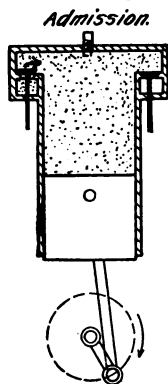

FIG. 3.
Figs. 3 to 6, inclusive, illustrate the four strokes forming a complete cycle in a four cycle engine. The piston is shown near the finish of the stroke in each case.
**Admission.** In Fig. 3 the piston has traveled one down stroke. During this stroke the admission valve is open and the vacuum formed by the down stroke of the piston has been filled by the inrush of a fresh charge of combustible mixture. This is called the suction or aspiration stroke. The admission valve closes at the end of this stroke.